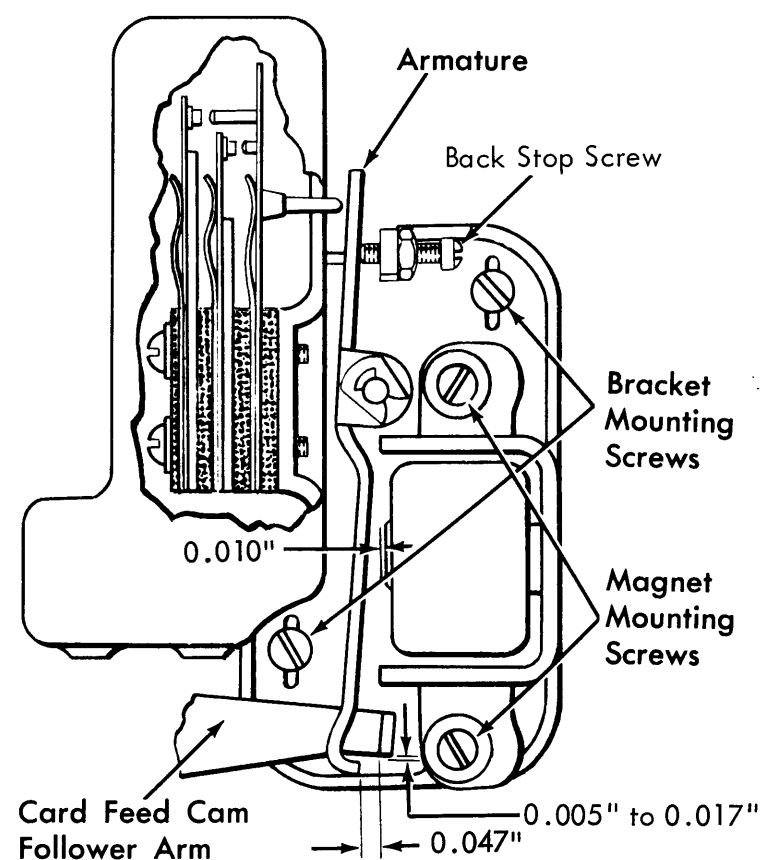

Figure 4-6. CF Latch Magnet Adjustment
- 1/32-inch off their supports (Figure 4-6).
1. Provide 3/64-inch (0.047-inch) clearance from latch magnet armature to ear on CF cam follower arm (Figure 4-6).